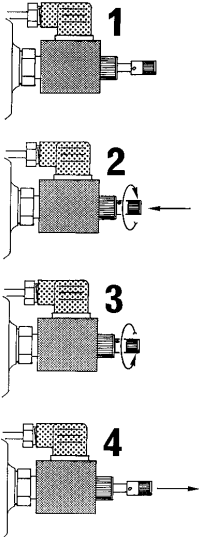

fig. 10b
- (!) On the distributor it has been installed an electro-valve with a manual locking function (fig.10-10a) which allows to reactivate all the crane functions in case of absence of the electric power. Only in these conditions it is permitted to remove the lead seals which protect the device. Push the button and turn it into the clockwise sense (fig. 10b pos. 1-2); the button stays in stable and closed position.
- (!) When the electric power is reestablished, remember to put the button in its original position, turning it into the anti-clockwise sense. (Fig. 10b pos. 3-4)